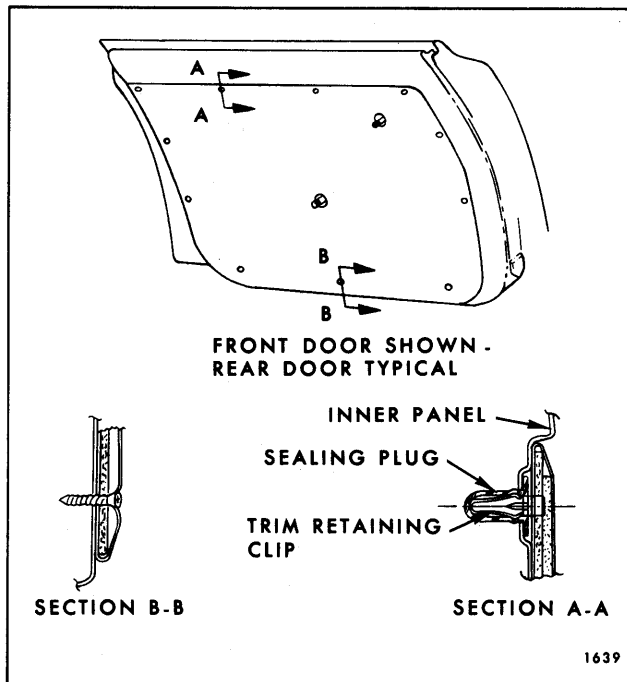

Fig. 14-14—Door Trim Pad Removal - Corvair Styles
3. Carefully insert tool J-6335, or an equivalent flat-bladed tool, between door trim assembly and door inner panel at retaining clip locations and disengage clips from plastic sealing plugs (Fig. 14-14).